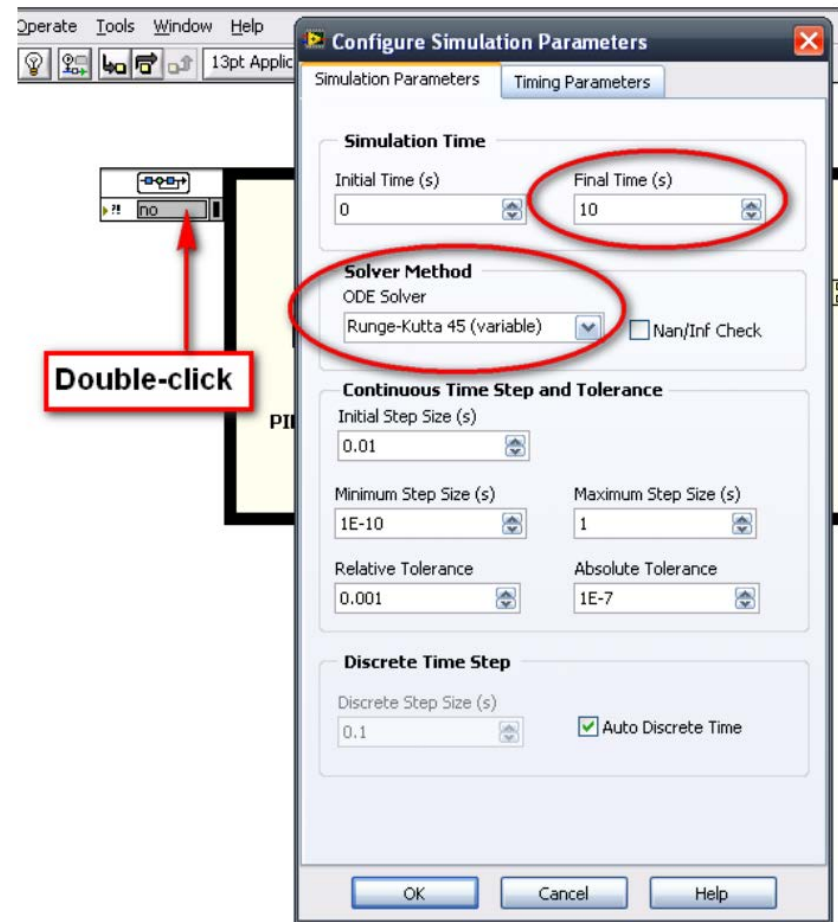

Figure 8. Change the simulation parameters.
- Before making changes to the PID controller, we will make the simulation more efficient. As seen on Figure 6 there is no need to simulate the default 10 seconds; the plant is fast enough so that a final simulation time of 2 seconds is enough. Now modify the simulation parameters by double-clicking on the Control & Simulation Loop configuration pane which calls up the Configure Simulation Parameters dialog window. Implement the parameters as shown in Figure 8.